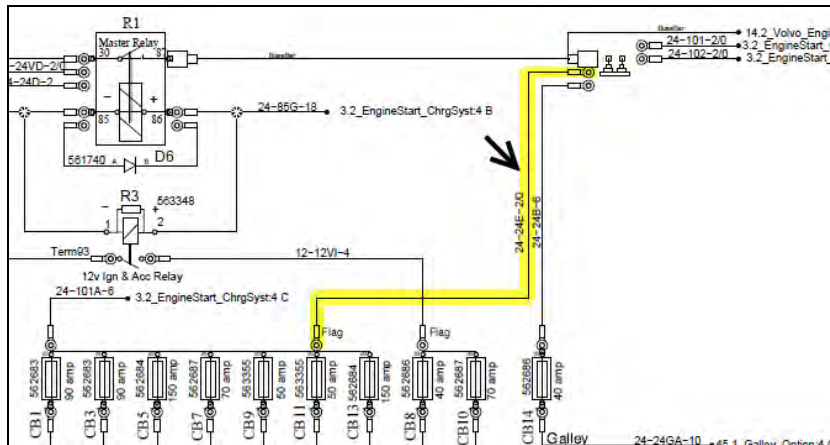
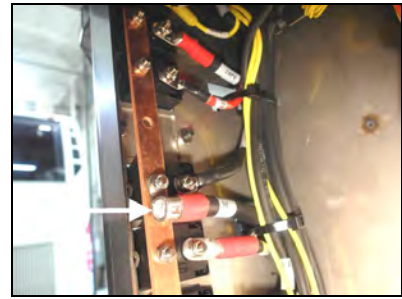

Figure 10
Figure 11: Power cable on main circuit breakers' bus bar.
- Between **Bussman junction block** and **main circuit breaker bus bar** (Figure 10 & Figure 11).